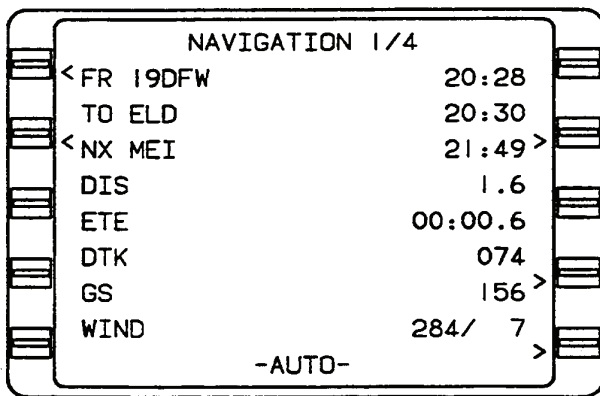

Figure 3A-26. FMS Navigation 1/4 Page
(1) *Navigation 1/4 Page*. Refer to Figure 3A-26.